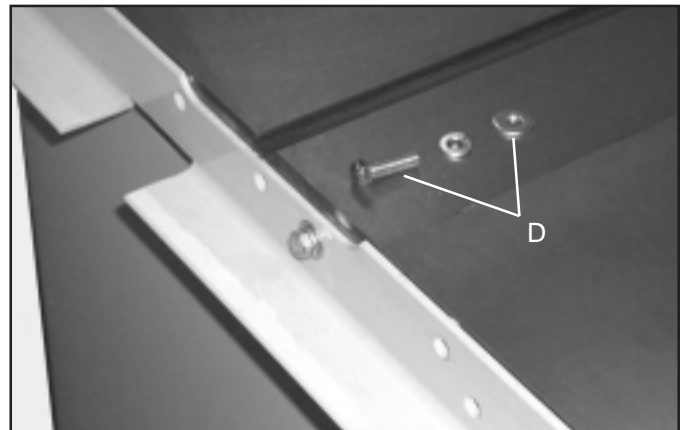

Fig. 8
For Delta Unisaw Thread the two 3/8-24 x 1-1/4" long hex head screw, lock washer and flat washer (D), supplied, Fig. 8, through the two holes in the rail and into the two threaded holes in the saw table.
For Delta Hybrid Saw and Left-tilting Contractor's Saw Fasten rail to the saw using the two 8MM x 1" long hex head screw, 8MM lock washer and 8MM flat washer supplied, Fig 8, through the two holes in the rail and into the two threaded holes in the saw table.